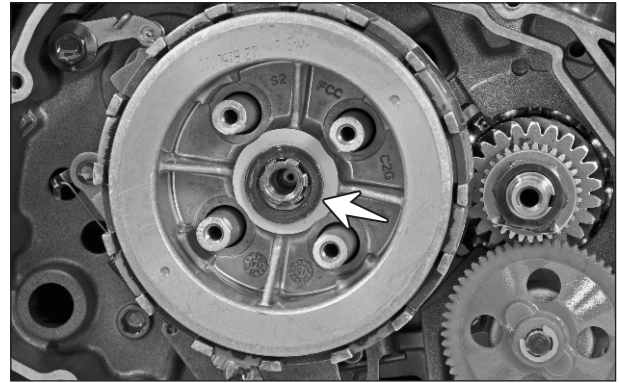

Fig. 3.12
- Take out the spring disc from clutch shaft. (Fig. 3.12)